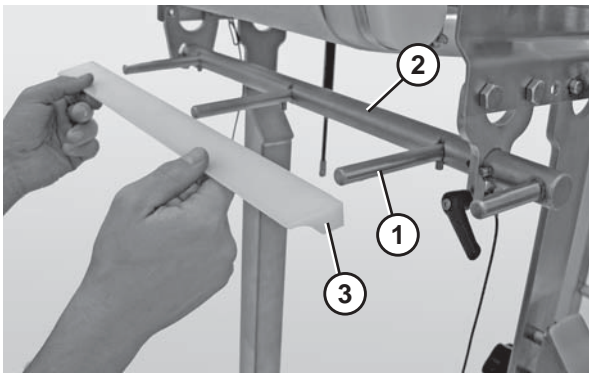

Figure 42
4. Attach the scraper bar holders (**Figure 42, item 1**) to the scraper shaft (**Figure 42, item 2**).
5. Attach the UWHM scraper (**Figure 42, item 3**) to the scraper bar holders (**Figure 42, item 1**).